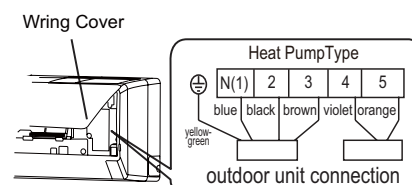

Fig.2
2. Remove the wiring cover, connect and fix power connection cord and signal control wire (only for heat pump type) to the terminal board. As shown in Fig.2.